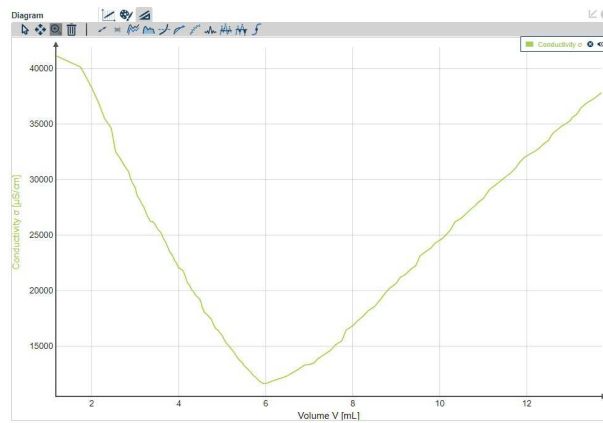

Fig. 4 :Titration diagram for the neutralisation of an approximately 0.1 molar HCl (V = 5 ml) with NaOH (c = 0.1 mol / l).
In the case of overtitrating, the conductivity of the concentration of the hydronium ions with high ion mobility added in excess ($u = 174 \text{ S} \cdot \text{cm}^2 \cdot \text{mol}^{-1}$) increases linearly (Fig. 4).
The titration curves are shown in Figs. 3 to 5. The volumes of the standard solution required to reach the equivalence points can be determined from them, i.e. $V_1 = 4.75 \text{ ml H}_2\text{SO}_4$ (Fig. 3), $V_1 = 4.95 \text{ ml NaOH}$ (Fig. 4) and $V_1 = 6.25 \text{ ml NaOH}$ (Fig. 5). From equation (5), the concentrations $c_2 = 0.095 \text{ mol/l Ba(OH)}_2$, $c_2 = 0.099 \text{ mol/l HCl}$ and $c_2 = 0.125 \text{ mol/l CH}_3\text{COOH}$ can be calculated, and from these the masses in the 5 ml test volumes; $m_2 = 81.38 \text{ mg Ba(OH)}_2$, $m_2 = 18 \text{ mg HCl}$ and $m_2 = 37.5 \text{ mg CH}_3\text{COOH}$.